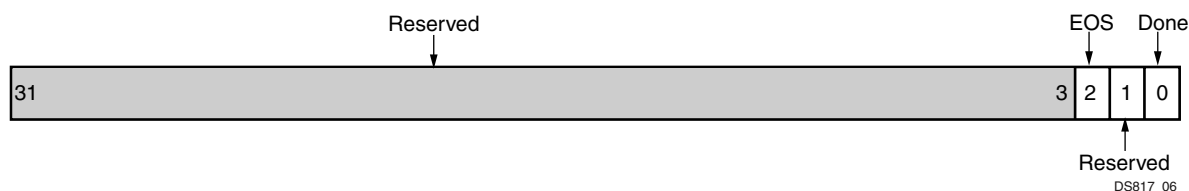

Figure 6: Status Register (SR)
The Status Register (SR) shown in Figure 6 is a 32-bit read register that contains the ICAP status bits. The bit definitions for the register are shown in Table 9. The offset and accessibility of this register from the C\_BASEADDR value are shown in Table 4.